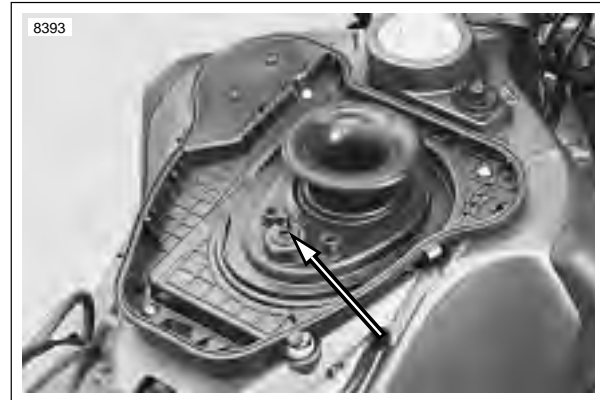

Figure 4-85. Intake Air Temperature Sensor Installed
See Figure 4-85. The intake air temperature sensor (IAT Sensor), located on the air cleaner baseplate, measures the air temperature allowing the ECM to calculate the density of the air entering the manifold. The IAT is a thermistor type sensor.
2. See Figure 4-85. Remove air cleaner cover and filter. Remove fasteners securing base. See 4.44 AIR CLEANER ASSEMBLY.